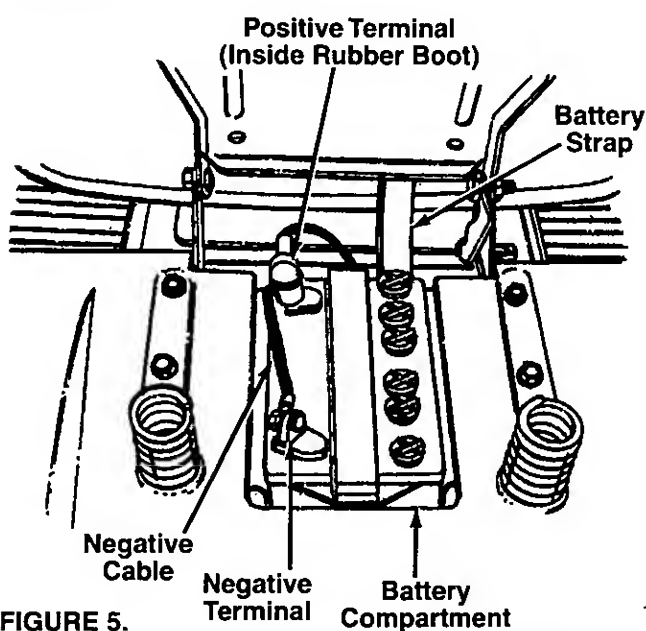

FIGURE 5.
2. Make certain both the negative (black) cable and the positive (red) cable are routed up through the battery compartment as shown in figure 5.